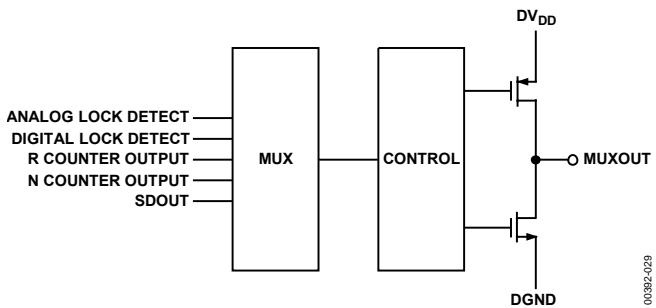
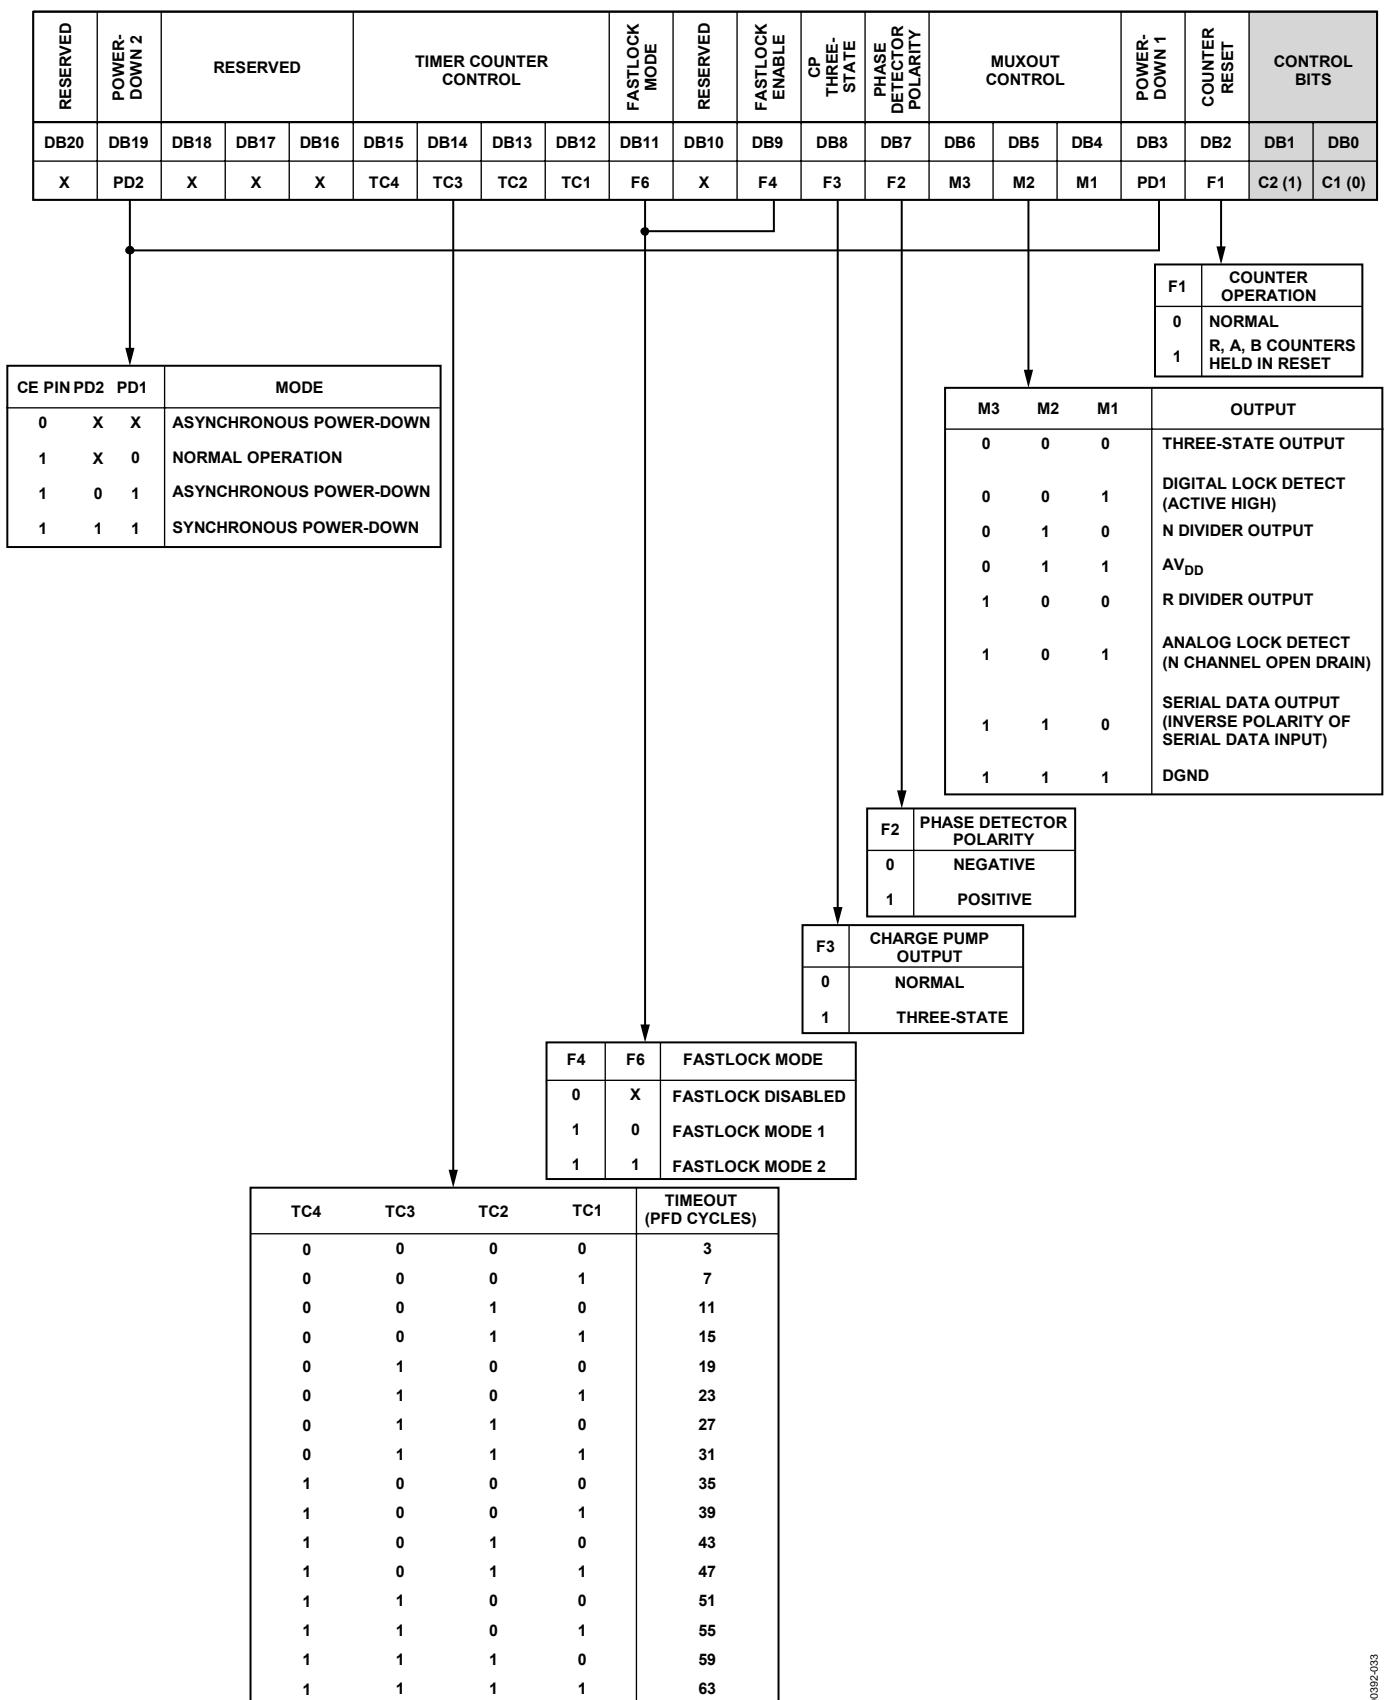

Figure 29. MUXOUT Circuit
Figure 33. Function Latch Map
The output multiplexer on the ADF411x family allows the user to access various internal points on the chip. The state of MUXOUT is controlled by M3, M2, and M1 in the function latch. Figure 33 shows the full truth table. Figure 29 shows the MUXOUT section in block diagram form.
With C2 and C1 set to 1 and 0, respectively, the on-chip function latch is programmed. Figure 33 shows the input data format for programming the function latch.
The on-chip multiplexer is controlled by DB6 (M3), DB5 (M2), and DB4 (M1) on the ADF411x family. Figure 33 shows the truth table.
- The user must also decide how long to keep the high current (1 mA) active before reverting to low current (250 µA). This is controlled by the timer counter control bits, DB14 to DB11 (TC4 to TC1), in the function latch. The truth table is given in Figure 33.